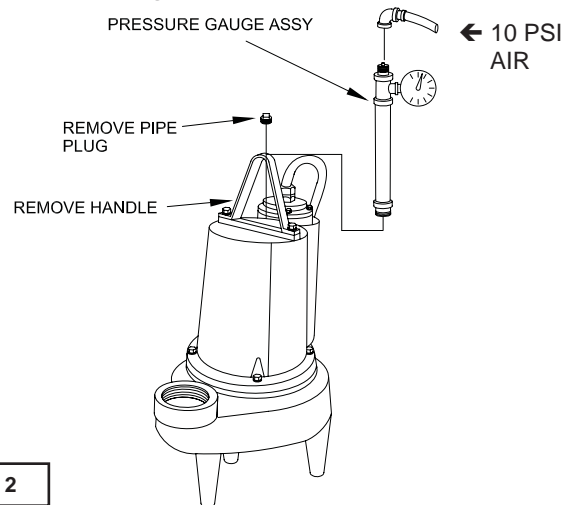

FIGURE 2
Motor Housing - Before checking the pump for leaks around the shaft seal, o-rings, and cord inlet, the oil level should be full as described in section F-1.3. Remove pipe plug (5) and lifting handle (7) from motor housing (2). Apply pipe sealant to pressure gauge assembly and tighten into pipe plug hole (see Figure 2). Pressurize motor housing to 10 P.S.I. Use a soap solution around the sealed areas and inspect joints for "air bubbles". If, after five minutes, the pressure is still holding constant, and no "bubbles" are observed, slowly bleed the pressure and remove the gauge assembly. Replace the pipe plug using a sealant. If the pressure does not hold, then the leak must be located.